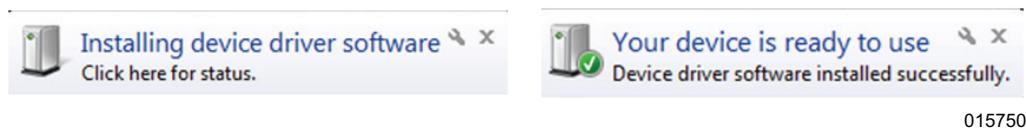

Figure A-9. Installing Flash Drive
1. See **Figure A-9**. Insert flash drive into a USB port of the computer. When installing the flash drive to the computer, it will go through the initialization of the drivers for the new flash drive.